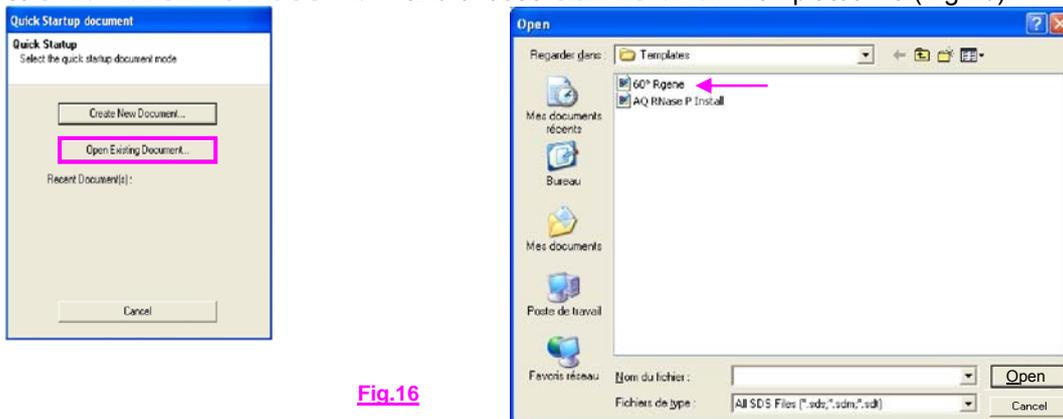

Fig.16
- Select **OPEN EXISTING DOCUMENT** and choose **60° RGENE** in Templates file (Fig.16).